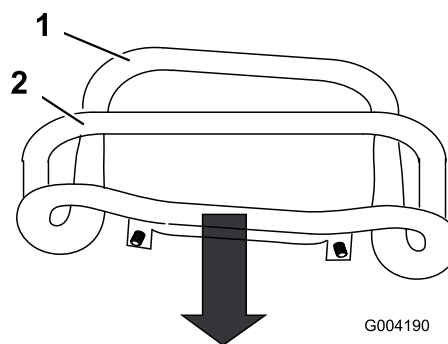

Figure 52
3. Pull back the traction control so that the front of the control contacts the reference bar (Figure 52).